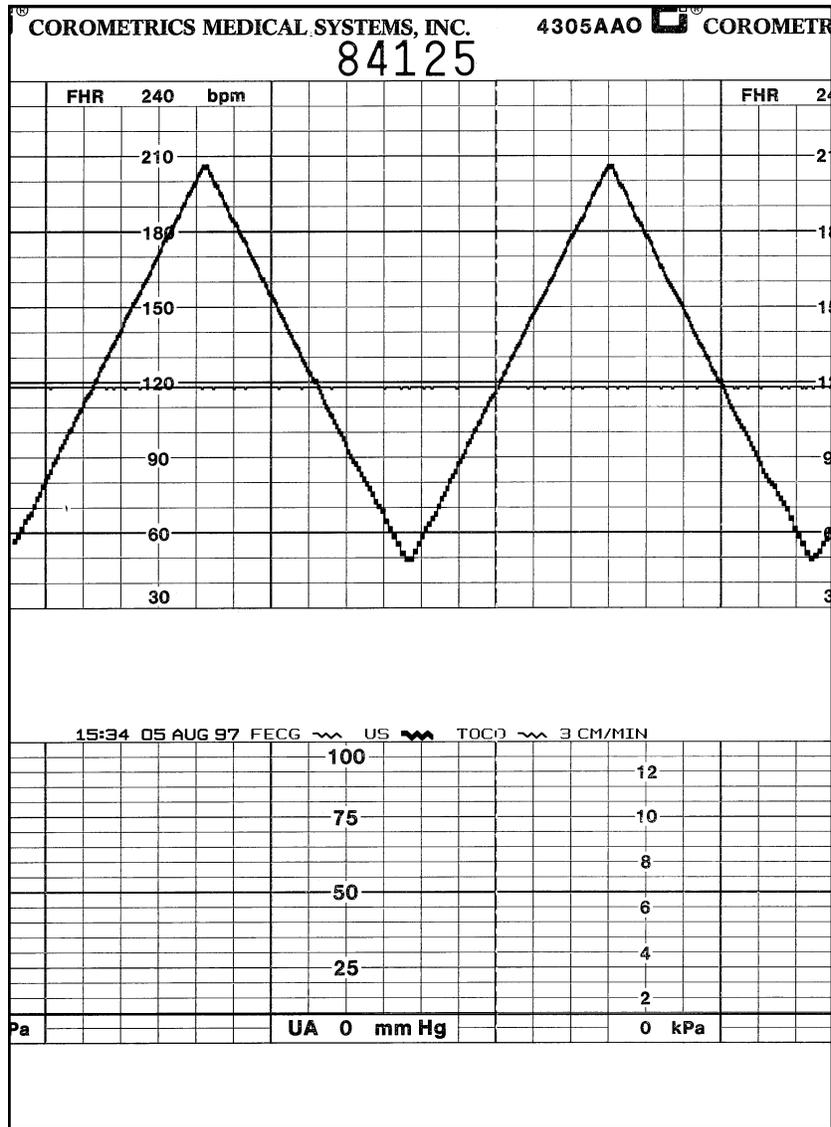

Figure 6-9. Dual Heart Rate, FECCG and US
- The recorder prints a continuous plain black line (—∧∧) on the 120 BPM mark on the heart rate channel of the strip chart paper. (Refer to Figure 6-9.)
- The recorder prints a bold black ramp trace (—∧∧) between 50 and 210 BPM on the heart rate channel of the strip chart paper. (Refer to Figure 6-9.)